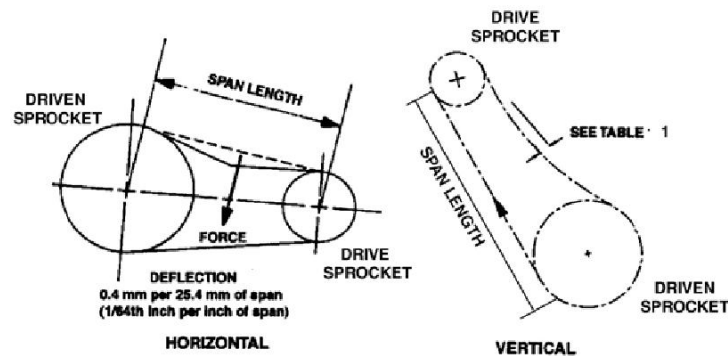

Figure 8: Roller chain tension adjustment
3. Check roller chain tension. Deflection of the span shown is in Figure 8 and Table 1.